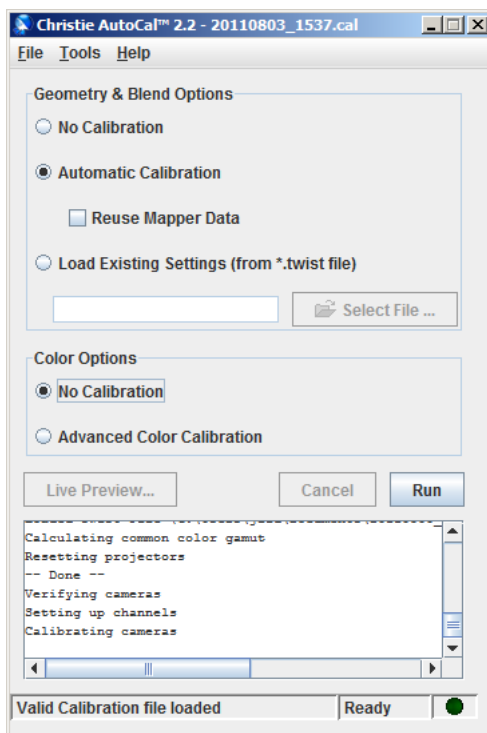

Figure 4-27 Main AutoCal Window
The main AutoCal application window (**Figure 4-27**) allows you to choose between doing geometry and blend correction, and/or color and brightness correction.
1. From the Configuration Wizard, click **Save** to save the current configuration. The main AutoCal window appears (**Figure 4-27**).